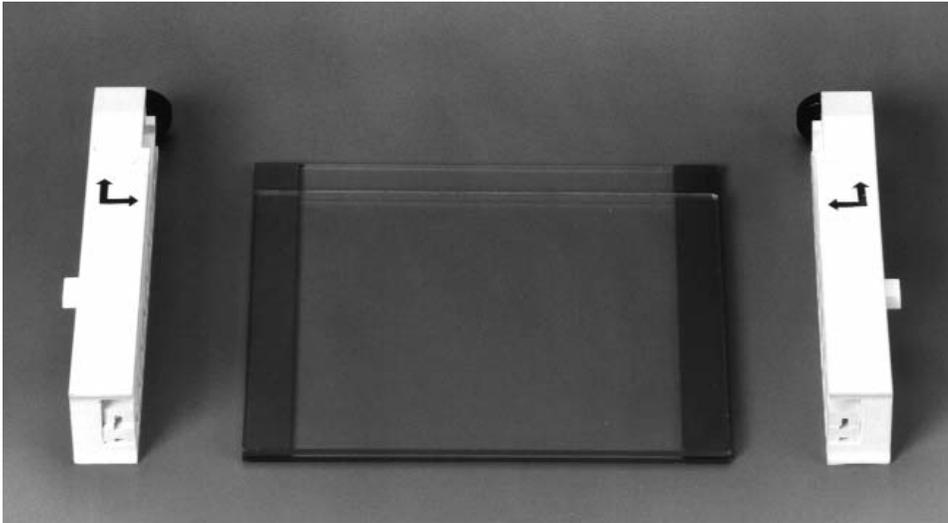

Fig. 4.17. Positioning glass plates, spacers, and clamps.
3. Loosen the single screw of each sandwich clamp by turning it counterclockwise. Place each clamp by the appropriate side of the gel sandwich with the locating arrows facing up and toward the glass plates (Figure 4.17).